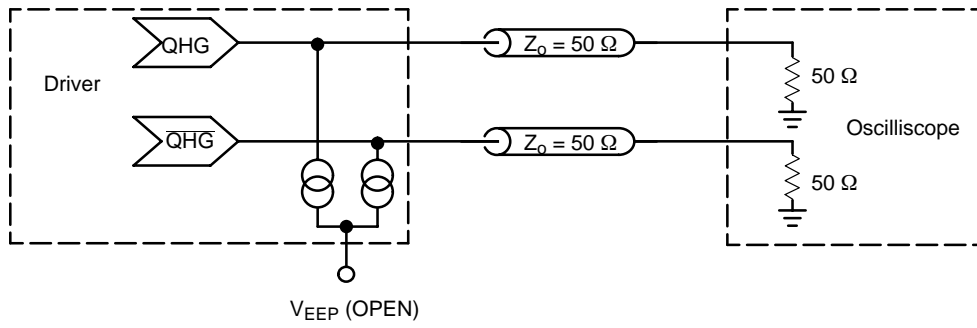
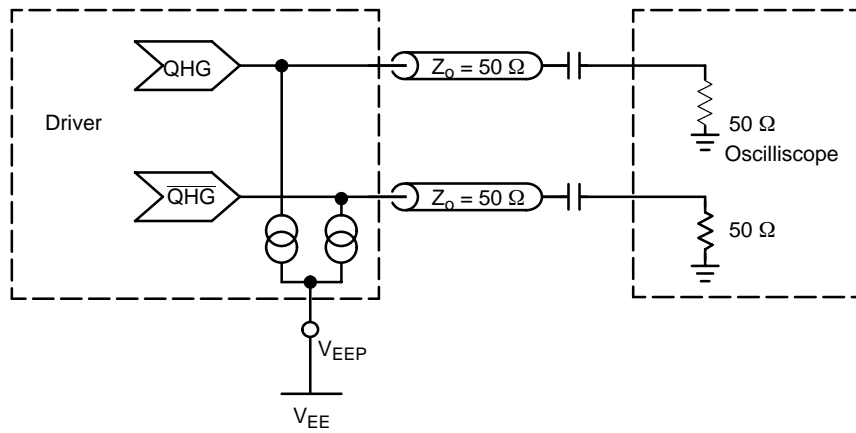

Figure 11. QHG/ $\overline{\text{QHG}}$ Device Evaluation Set-up; $V_{\text{EEP}} = \text{OPEN}$
Figure 12. QHG/ $\overline{\text{QHG}}$ Device Evaluation Set-up; $V_{\text{EEP}} = V_{\text{EE}}$
- QH \bar{G} /QH \bar{G} outputs loaded with 50 Ω to $V_{CC} - 2.0\text{ V}$ ($V_{EEP} = \text{OPEN}$) Figure 11 or with optional current source ($V_{EEP} = V_{EE}$) Figure 12. Q/Q outputs loaded with 8 mA current source (CS_SEL = V_{EE}).
13. QHG/QHG outputs loaded with $50\ \Omega$ to $V_{CC} - 2.0\text{ V}$ ($V_{EEP} = \text{OPEN}$) Figure 11 or with optional current source ($V_{EEP} = V_{EE}$) Figure 12.
17. QHG/QHG outputs loaded with $50\ \Omega$ to $V_{CC} - 2.0\text{ V}$ ($V_{EEP} = \text{OPEN}$) Figure 11 or with optional current source ($V_{EEP} = V_{EE}$) Figure 12.
24. Assumes 50% Input Duty Cycle, see Figures 11 or 12.